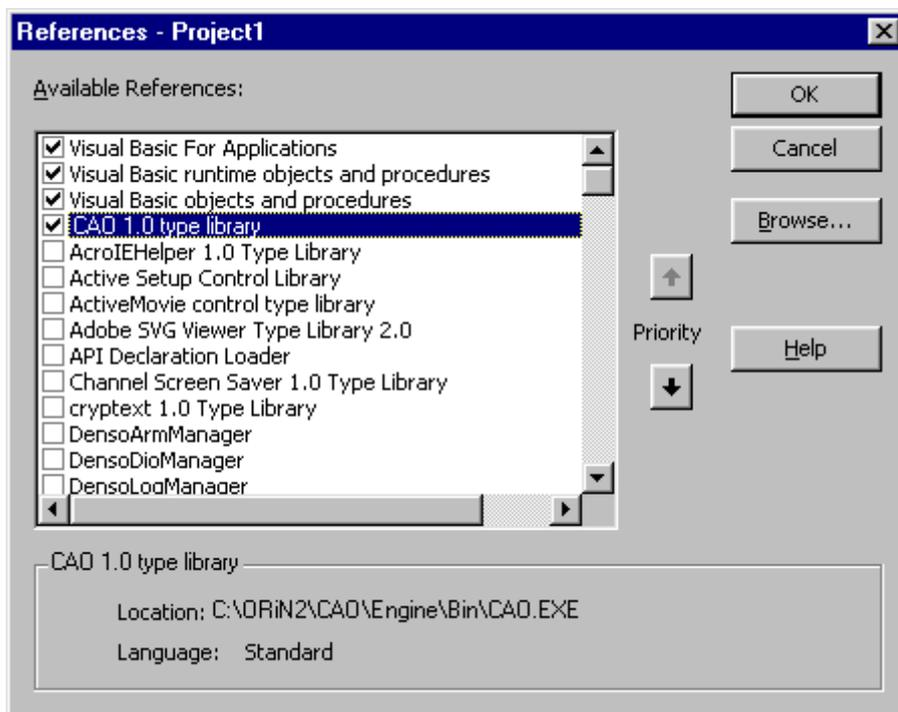

Figure4-2 Reference to CAO type library
- (1) Start Visual Basic 6.0, and select "Make of a new project" → "Standard EXE".
- (2) Add "CAO1.0 type library" from "Project" → "Reference setting" as shown in Figure4-2. As a result, the library of CAO can be used from the client application.